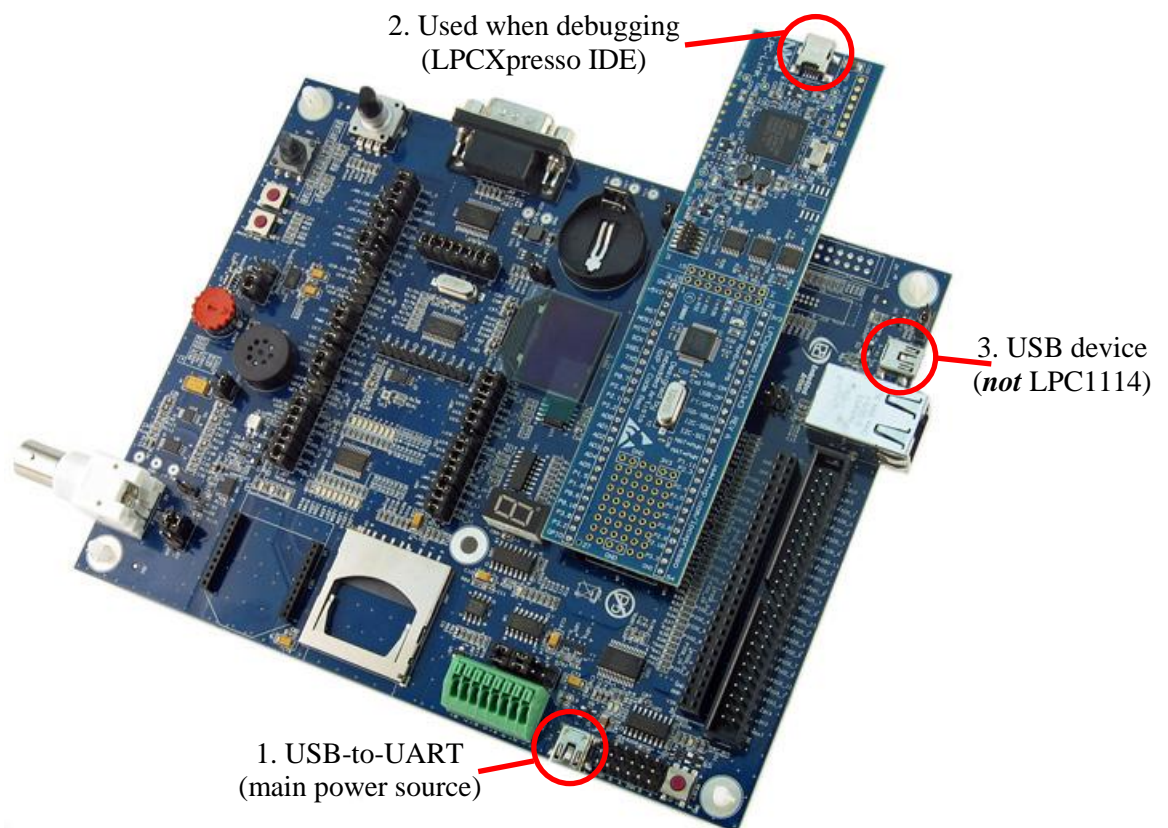

Figure 3 – Base Board with a mounted LPCXpresso LPC1343 board
The board can be powered from a PC via the included USB cable (mini-B to A cable). When the LPCXpresso LPC1343/LPC1114 board is mounted on the base board there are a total of three USB interfaces and all can be used to power the base board. Although all USB interfaces can be used to power the board it is recommended to use any of the USB interfaces on the base board. The main power source is, for example, the USB-to-UART bridge. See Figure 3 for the three USB interfaces. Section 3.4 describes how to install necessary drivers for the USB-to-UART bridge.
1. Make sure you have connected a USB cable (mini-B to A) between your computer and the LPCXpresso LPC1343/LPC1114 board, see Figure 3 (USB interface 2).
5. You need to have a USB cable (mini-B to A) connected between your computer and the USB interface (interface 3 as shown in Figure 3).